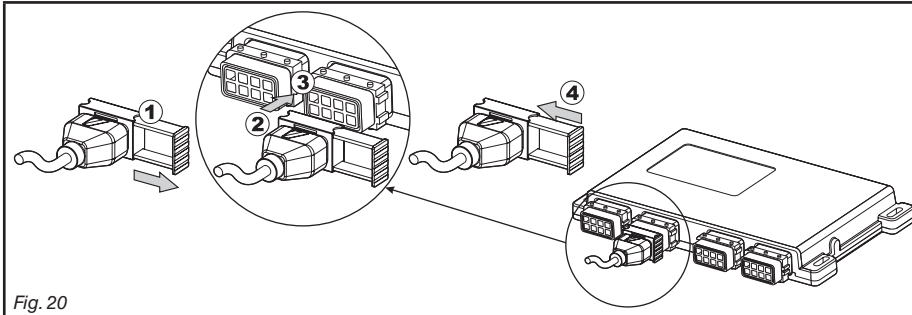

Fig. 20
- Open the connector rail (1, Fig. 20).
- Insert the connector (2) into the outlet (3) and push it: **be careful not to bend the contacts upon insertion.**
- Fully tighten the rail (4).